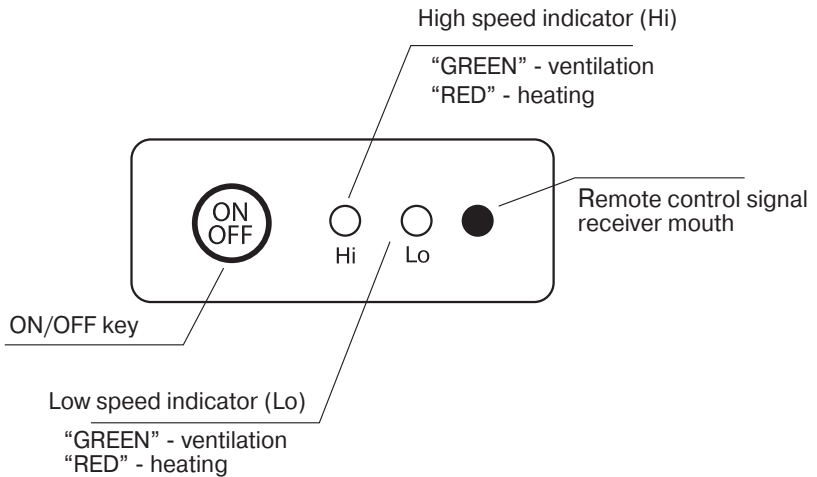

Figure 3 Air curtain control board
5.4 Control by ON/OFF key of Air Curtain panel (see Fig.3)